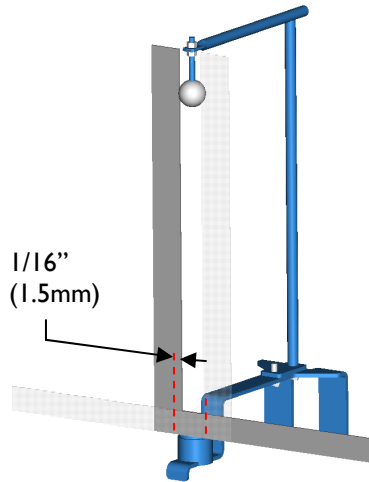

Figure 25: Squaring the Ball Target to the Mounting Ring
5. Using a 24" square, place the base of the square on the sensor mounting ring as shown in **Figure 25**. The side of the ball should be aligned with the inside edge of the sensor mounting ring. Check both sides of the ball target. If the ball is not aligned bend the ball mounting arm until alignment is achieved.